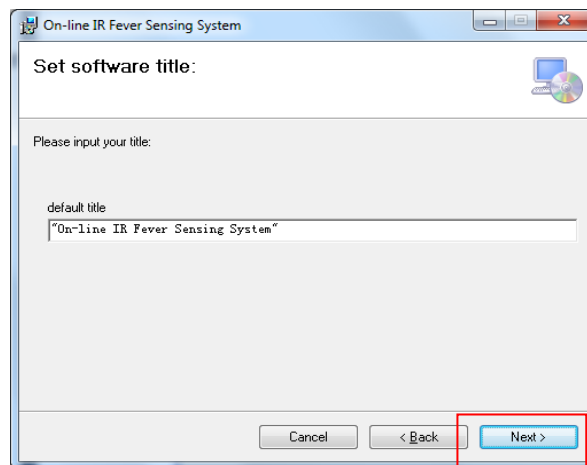

Fig. 3.3.2 Setting software title
- Click [Next] to enter into software title setting interface, setting the title as "Network type port access over temperature monitoring system", shown in Fig. 3.3.2.